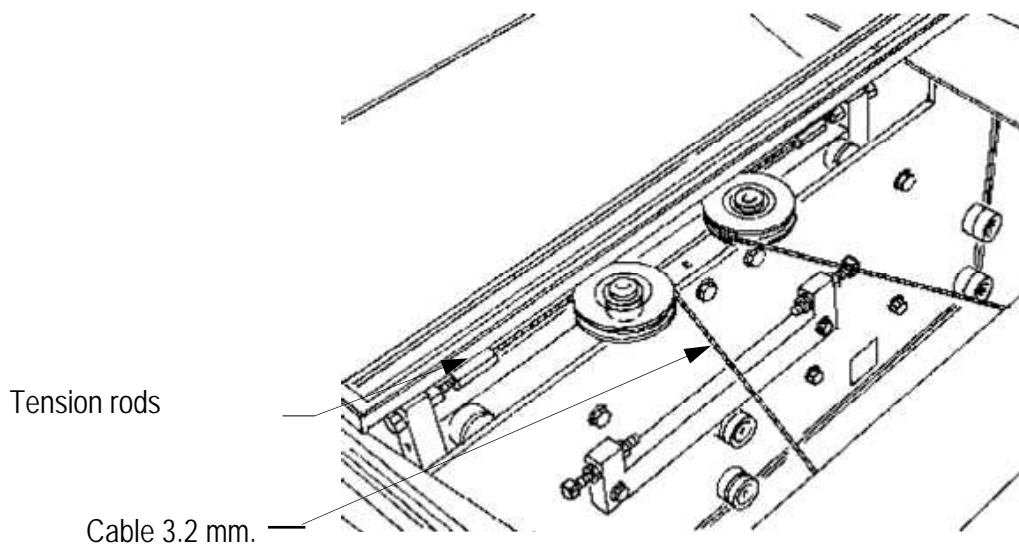

fig. 4.20
- Release the 3.2 flexible cable from tension rods (fig.4.20).